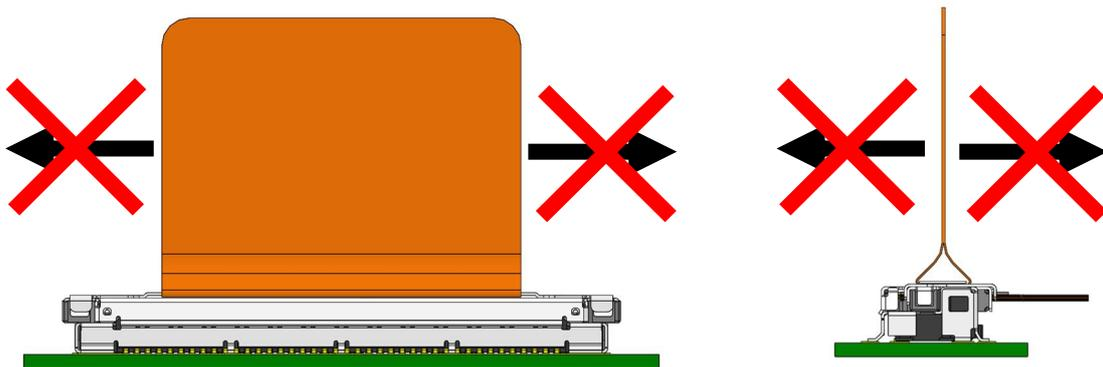

Fig.27 Prohibited PULL TAPE pulling direction
- Do not pull the PULL TAPE toward arrowed direction, or it may tear the PULL TAPE and deform SHELL-A and PULL TAPE HOLDER. Make sure to hold center of the PULL TAPE and pull it up vertically. [Fig. 27]